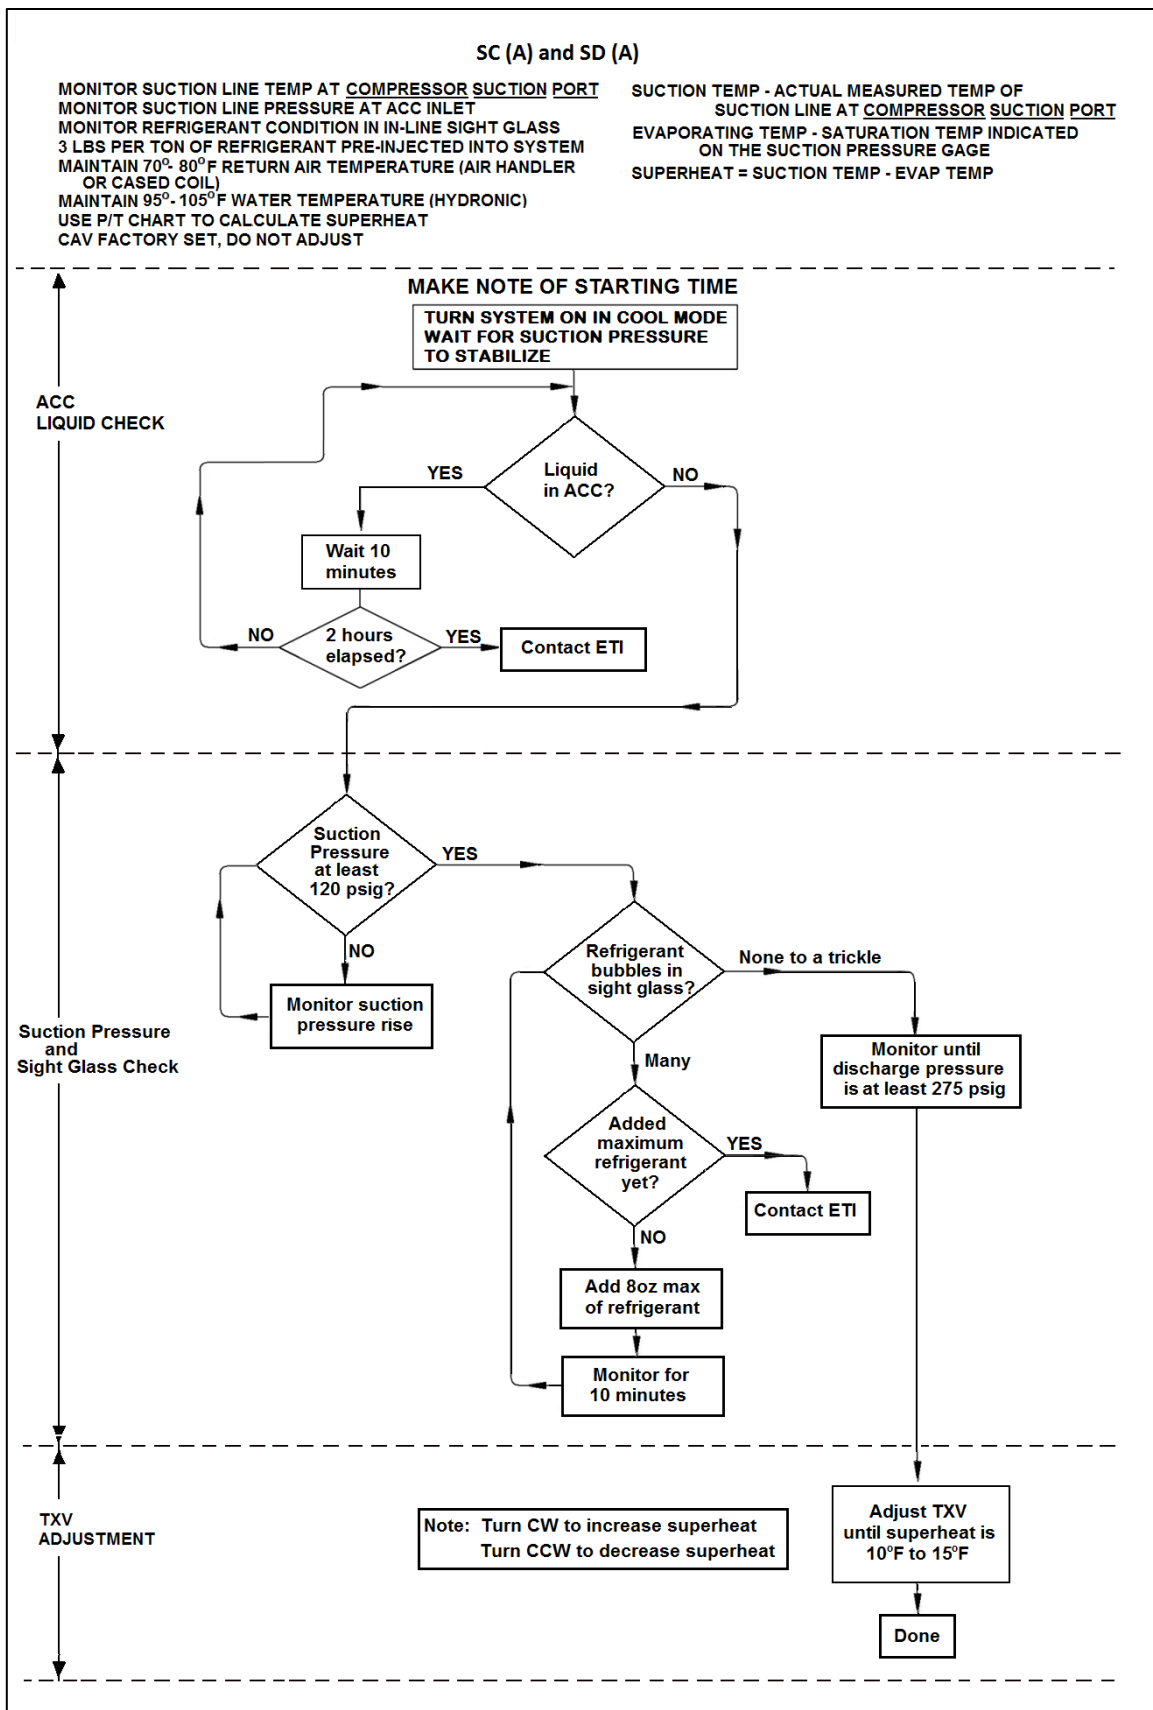

Figure 38. Cooling Mode Start-Up
These following steps describe the procedure for system **start-up in the cooling mode**. This is illustrated in Figure 38. **Be sure the cooling mode for the system is enabled.**
These following steps describe the procedure for system **start-up in the cooling mode**. This is illustrated in the process flow chart, Figure 38. **Be sure the cooling mode for the system is enabled.**
4. **If there is LIQUID REFRIGERANT** in the bottom ACC sight glass, continue to run the system to remove the liquid refrigerant from the ACC, in accordance with the procedure described in the process flow chart, Figure 38.